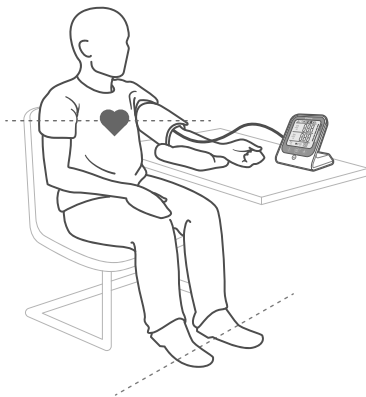

Figure 2.2
5. Place your arms on a surface and sit with your feet flat on the floor so that the cuff is at the same level as your heart. Your arms should be in a relaxed, natural position. [Figure 2.2]